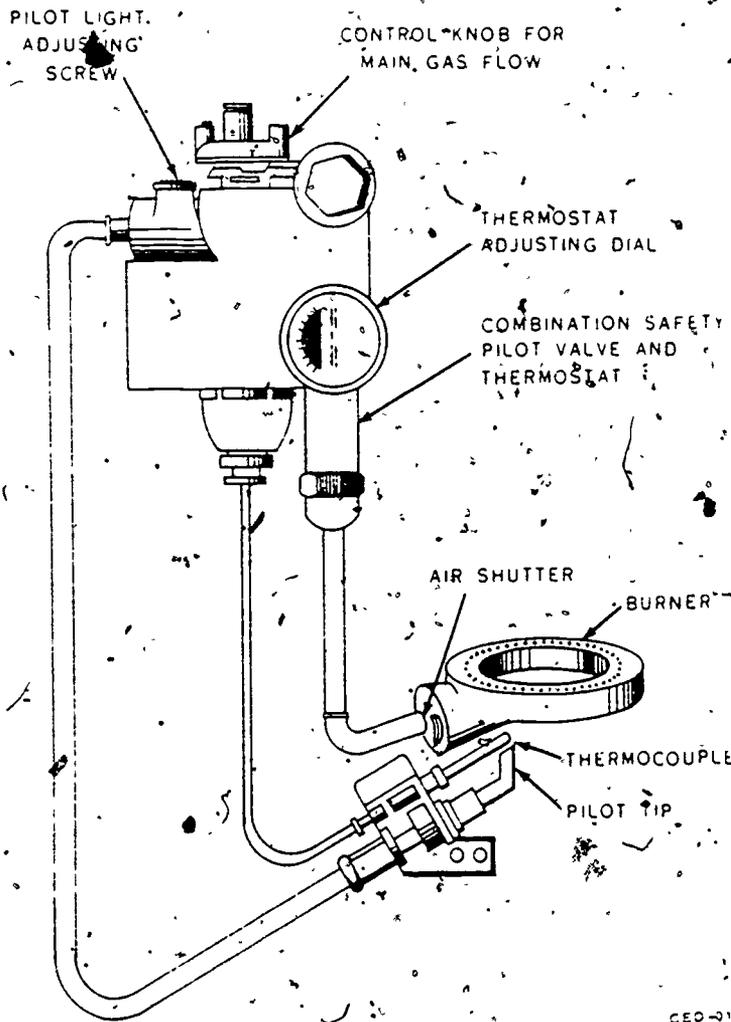

Figure 2-3 Automatic safety controls burner assembly
**Gas Burners.** Figure 2-3, automatic safety controls and burner assembly, illustrates typical safety controls used for gas burners. Although this particular control is for a water heater, the principles of operation are the same for ovens, furnaces, and other gas burners. You should know the operating principles of safety controls so that you are aware when they are not operating properly.
Assume that you have closed the main gas valve using the control knob shown at the top of figure 2-3. Wait approximately 5 minutes before checking out the unit. To check it out, make sure the thermostat is opening and closing. You do this by turning the thermostat adjusting dial back and forth on the low temperature end of the scale until you hear a click. The clicking sound tells you that the thermostat is opening properly. After this test, set the thermostat adjusting dial to normal (140°) for ordinary use. Turn the main gas control knob to open and light the pilot. The safety controls automatically close the gas to the main burner when the pilot light is out.